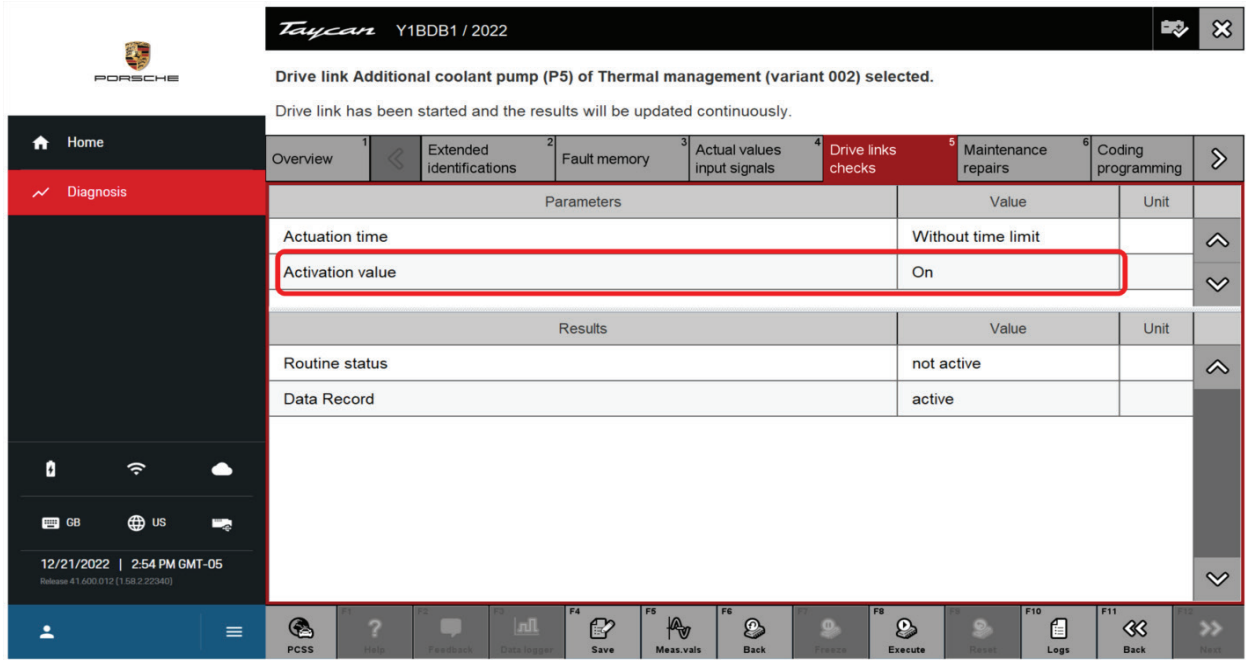

Figure 1 - Drive Link Command for Additional Coolant Pump 'P5' Activation
1. Activate the Drive Link for “Additional coolant pump (P5) of Thermal Management” by setting the Activation value to “On”. Allow the routine to run **at least 35 seconds**. (Reference Figure 1)
2. After 35 seconds **and** while continuing to allow the routine from (1) to run, check the Thermal Management Control Unit’s Fault Memory
- a. If no fault code resulted, then the P5 coolant pump is operating as intended. Proceed to Step (3).
- b. If the fault **“P261E00 – Additional coolant pump (P5) – blocked”** resulted from (1), then the P5 pump is faulty and requires replacement.